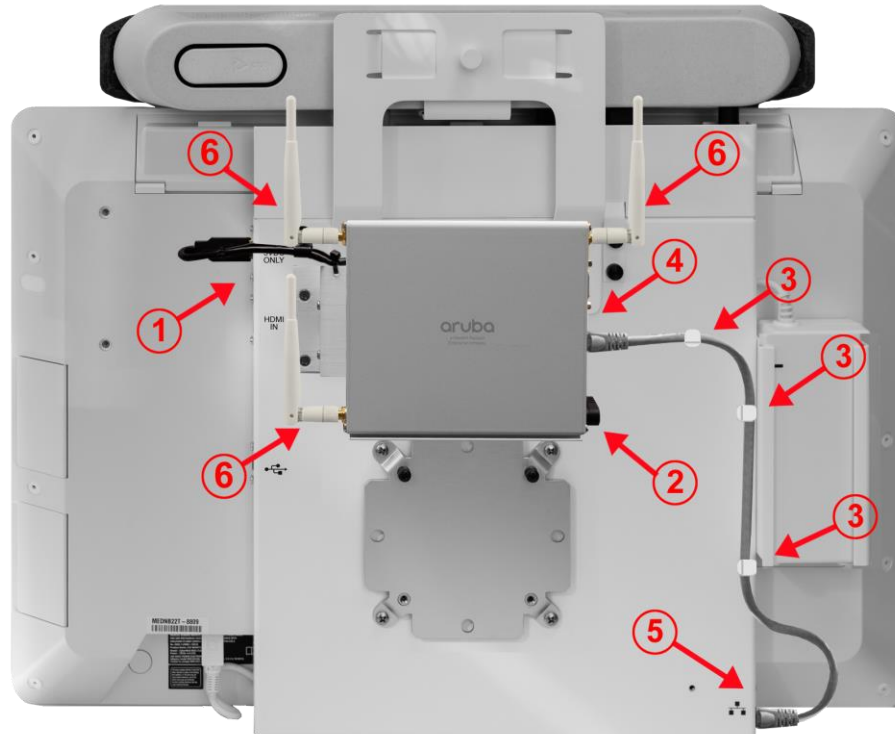

Figure 31. Connecting Aruba Wireless Bridge to eCLINiC System
3. Attach the self-adhesive cable clamps to the rear of the eCLINiC chassis in a logical pattern to allow cable attachment from the network connector on the bridge to the network connector on the eCLINiC as shown in figure 31 above
5. Connect the other end of the supplied RJ45 male to male cable to the network connector on the eCLINiC, and route the cable through the previously attached cable clamps as shown in figure 31 above
6. Screw in the 3 antennas supplied with the Aruba bridge and orientate them in an upright position, as shown in figure 31 above